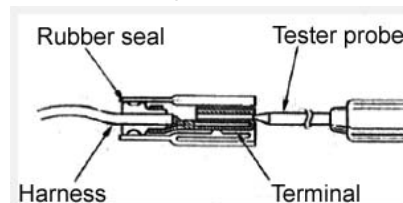

Fig. 4-11
14. When testing the interface terminal of any control module or unit, insert the acuminate probe gently into the interface from the lead side till get to the terminal face of lead. (Fig. 4-11)